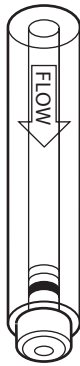

Fig. 2 Column tube assembly.
1. Assemble the column according to the diagram in Figure 2 and seal the bottom outlet with Parafilm® laboratory film.